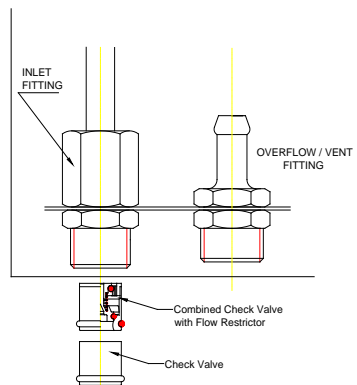

FIGURE 1
- **WATER SUPPLY CONNECTION:** Cold mains pressure water must be piped and connected to the 15 mm (1/2" BSP) inlet fitting located on the left hand side, underneath the unit. Included in this fitting is a combined check valve and flow restrictor (for details, refer to Figure 1) which prevents the tank from being damaged by excessive water supply pressures. Also an appropriate filling / shut off tap must be fitted to the mains pressure supply line. To prevent the silicone tube from kinking or being detached, care should be taken to prevent the inlet fitting from turning when tightening up the inlet pipe "crox" nut.
- **COMBINED OVERFLOW / VENT CONNECTION:** The overflow/vent pipe must be connected to the 15 mm (1/2" BSP) drain fitting located next to the inlet fitting at the base of the unit (refer Figure 1). This pipe must have a continuous fall, not exceeding 3 metres in length, or contain more than 4 bends. If the length exceeds 3 metres, the overflow/drain must be discharged into a tundish or similar. To prevent the silicone tube from kinking or being detached, care should be taken to prevent the overflow/vent fitting from turning when tightening up the inlet pipe "crox" nut.